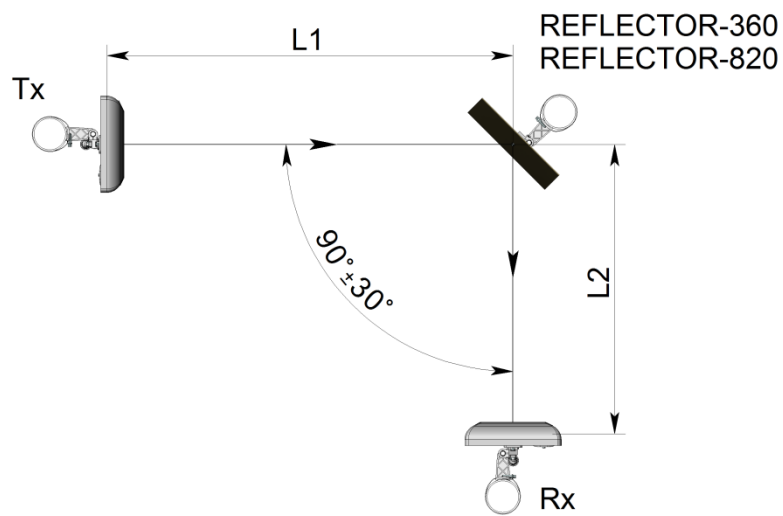

Figure 3.1
3.2. When operating with REFLECTOR -820 the total length of the detection zone  $L1+L2$  ( $L1$  – distance between Tx and the reflector,  $L2$  – distance between the reflector and Rx, see Figure 3.1) should not exceed 70 m.
3.3.1. Install the transmitter, receiver and reflector according to Section 3 of the present UM and Figure 3.1. Install the transmitter, receiver and reflector on the same height respectively to the ground (Figure 1.2).